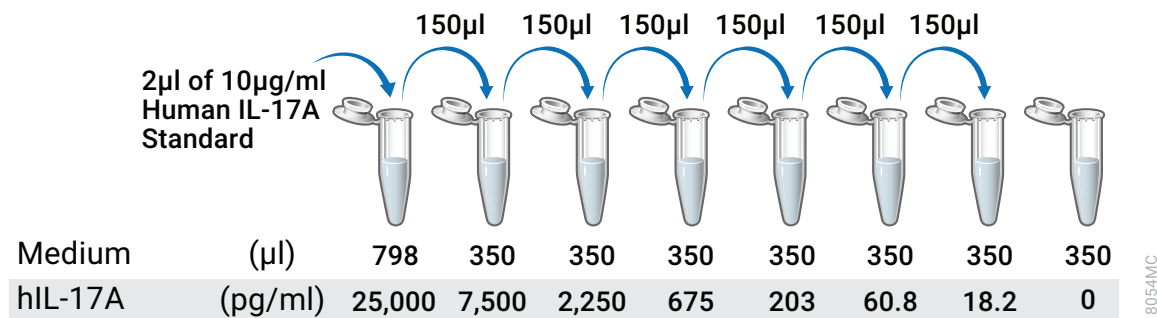

Figure 3. Human IL-17A dilution series.
3. Prepare an initial concentration of 25,000pg/ml human IL-17A by diluting Human IL-17A Standard (10µg/ml) 1:400 in prewarmed cell culture medium. For example, prepare 800µl of 25,000pg/ml human IL-17A by adding 2µl of the Human IL-17A Standard stock to 798µl of culture medium (see Figure 3).
3. Prepare an initial concentration of 25,000pg/ml human IL-17A by diluting the Human IL-17A Standard (10µg/ml) 1:400 in prewarmed cell culture medium. For example, prepare 800µl of 25,000pg/ml human IL-17A by adding 2µl of the Human IL-17A Standard stock to 798µl of culture medium (Figure 3).